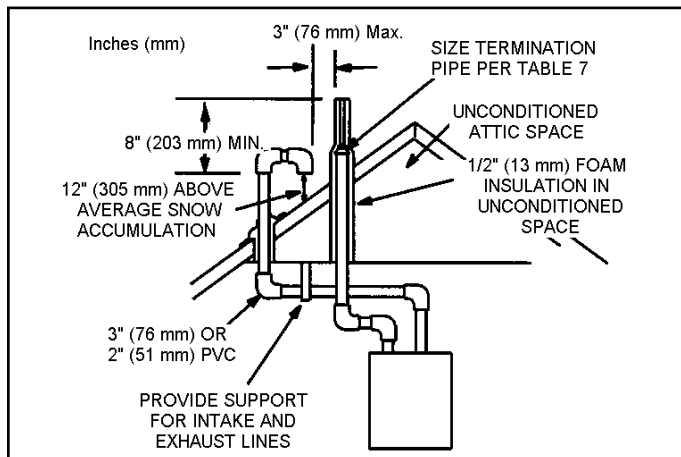

Figure 36. Direct Vent Roof Termination Kit (15F75 or 44J41)
Intake and exhaust pipes may be routed either horizontally through an outside wall or vertically through the roof. In attic or closet installations, vertical termination through the roof is preferred. Figure 36 through Figure 43 show typical terminations.
3. On roof terminations, the intake piping should terminate straight down using two 90° elbows (see Figure 36).